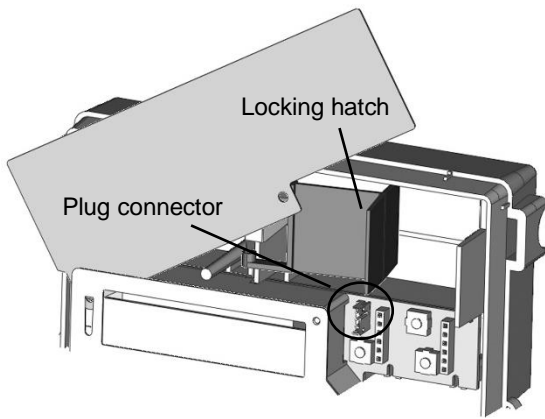

Fig. 2: Overview meter
- Plug the 3-pin connection cable into the plug connector on the PCB. (see Fig.2).